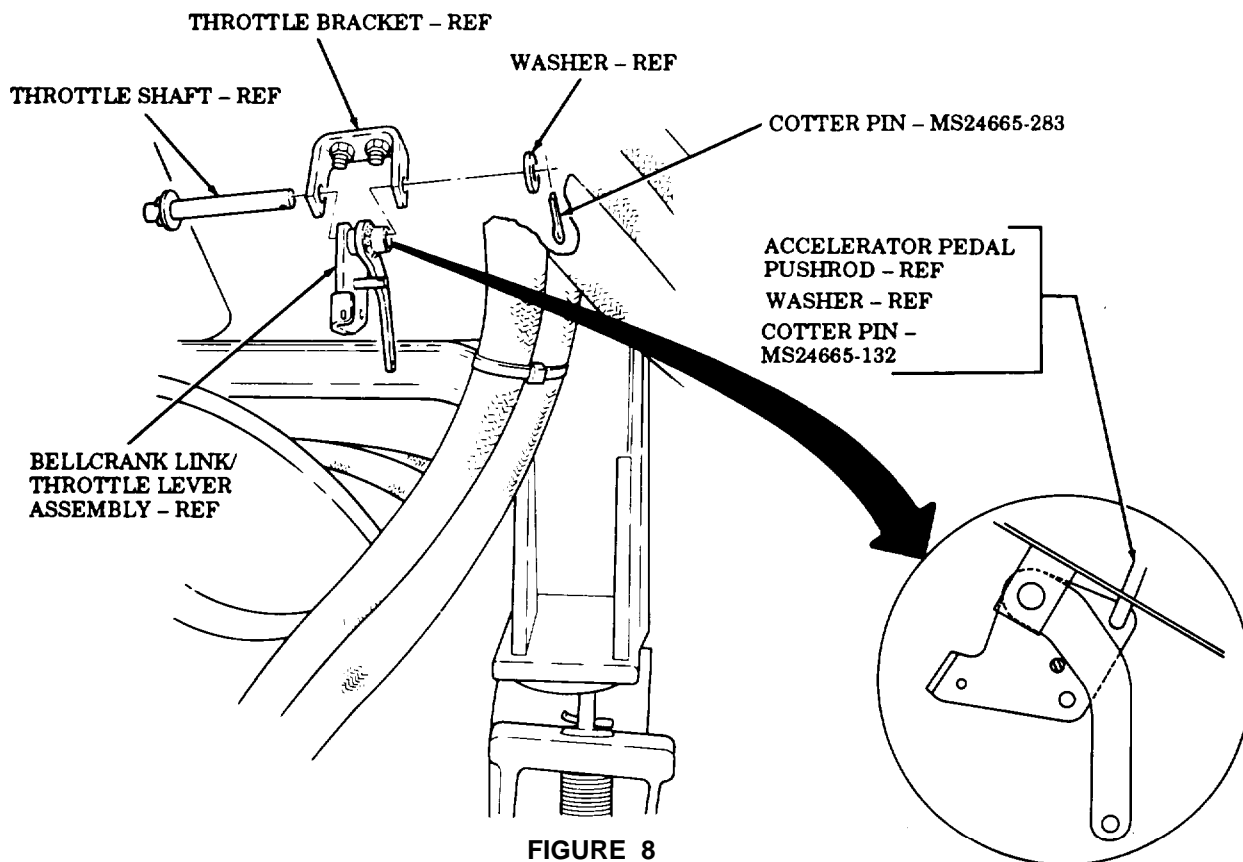
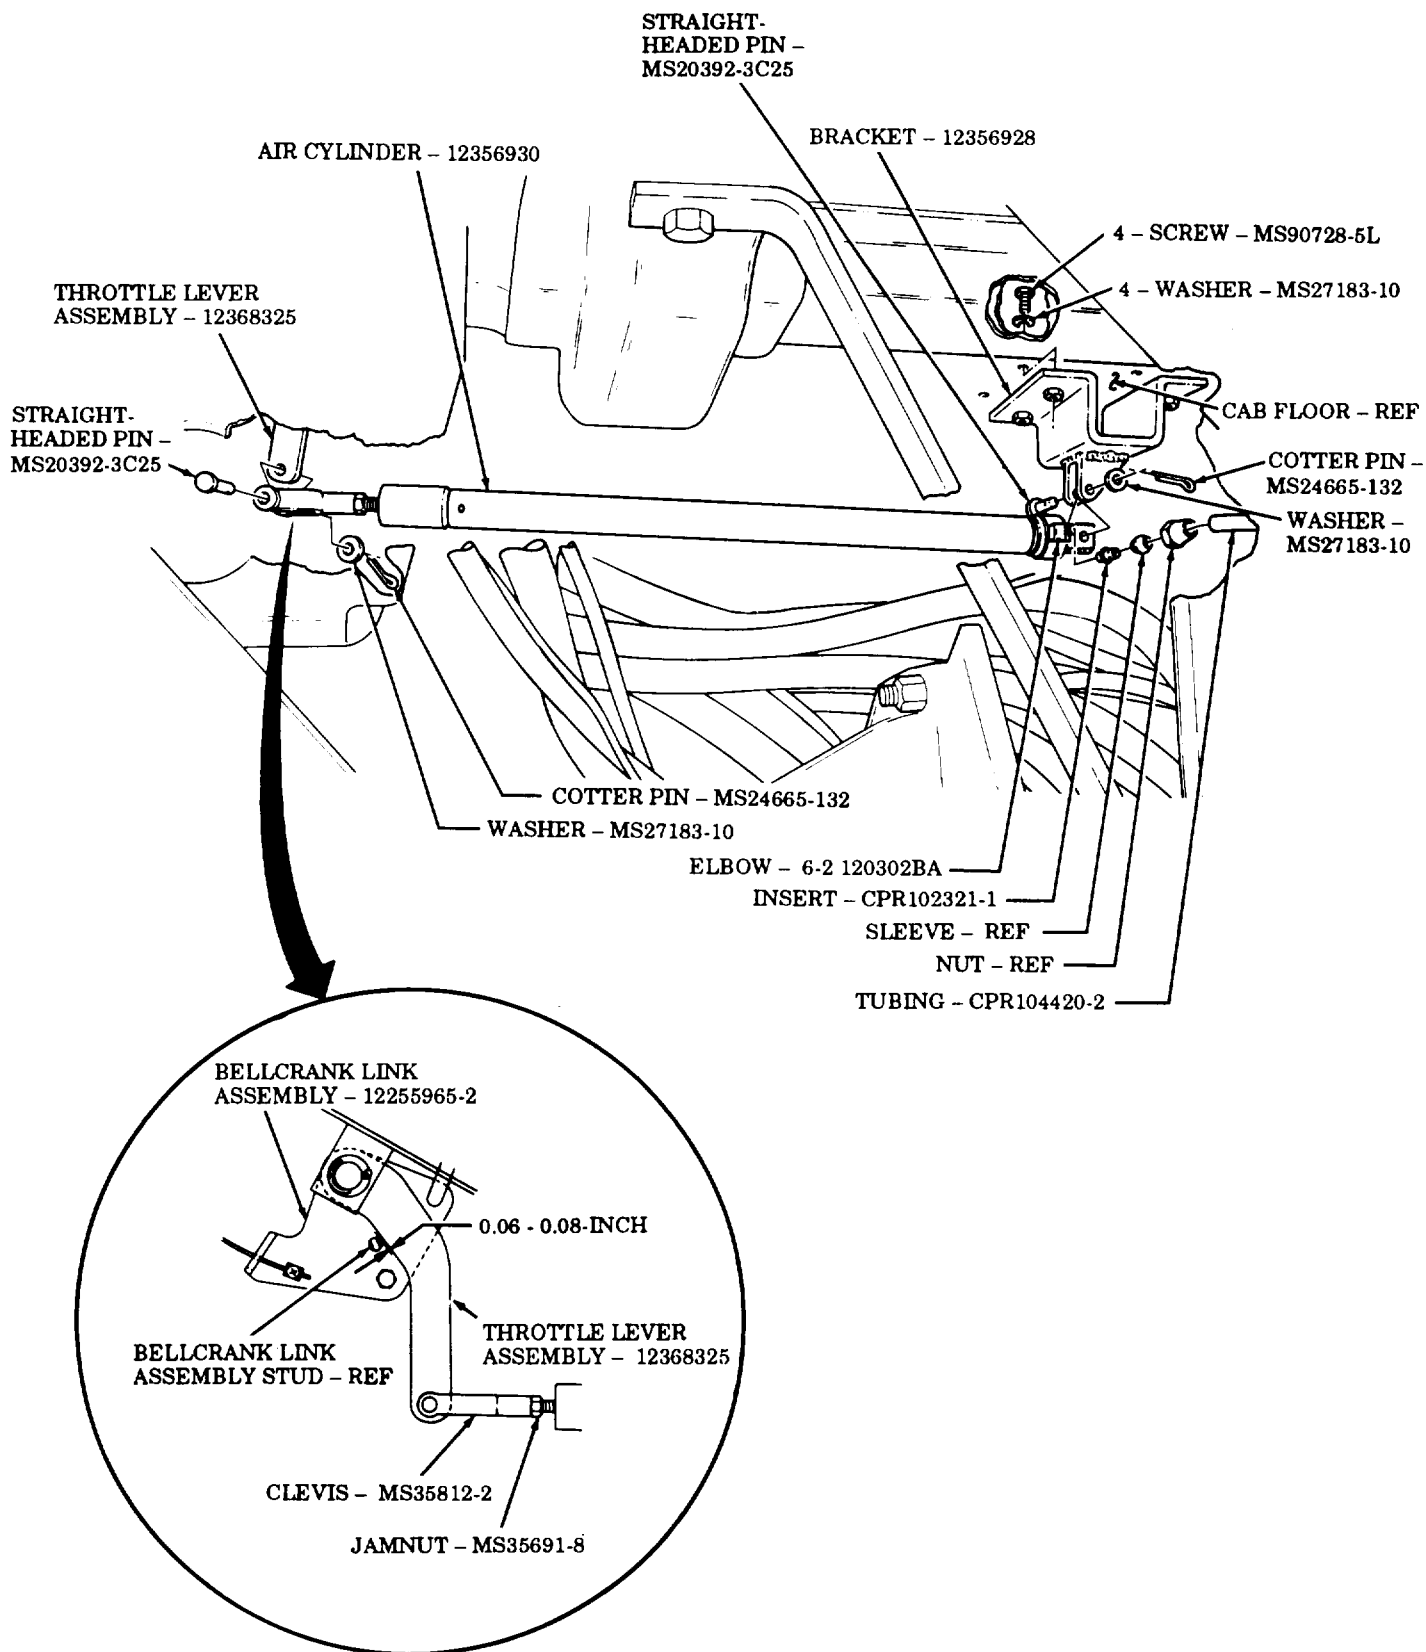

FIGURE 8
FIGURE 9
- (1) Position accelerator pedal pushrod on bellcrank link/throttle lever assembly and install bellcrank link/throttle lever assembly on throttle bracket with throttle shaft, washer, and MS24665-283 cotter pin as shown in figure 8.
- (2) Install accelerator pedal pushrod on bellcrank link/throttle lever assembly with washer and MS24665-132 cotter pin as shown in figure 8.
- (3) Install ball joint, return spring, and throttle cable on bellcrank link assembly (12255965-2) (TM 9-2320-272-20).
- (4) Install 12356928 bracket on cab floor with four MS27183-10 washers and MS90728-5L screws as shown in figure 9.
- (5) Install air cylinder (12356930) on bracket (12356928) with MS20392-3C25 straight-headed pin, MS27183-10 washer, and MS24665-132 cotter pin as shown in figure 9.
- (6) Install clevis (MS35812-2) on throttle lever assembly (12368325) with MS20392-3C25 straight-headed pin, MS27183-10 washer, and MS24665-132 cotter pin as shown in figure 9.
- (7) Measure clearance between stud of bellcrank link assembly (12255965-2) and throttle lever assembly (12368325). Clearance should be 0.06-0.08-inch as shown in figure 9.
- (8) Remove cotter pin (MS24665-132), washer (MS27183-10), straight-headed pin (MS20392-3C25), and clevis (MS35812-2) from throttle lever assembly (12368325) as shown in figure 9.
- (9) Loosen jamnut (MS35691-6) and turn clevis (MS35812-2) to obtain proper clearance as shown in figure 9.
- (10) Install clevis (MS35812-2) on throttle lever assembly (12368325) with straight-headed pin (MS20392-3C25), washer (MS27183-10), and cotter pin (MS24665-132). Check clearance as shown in figure 9.
- (11) Repeat steps 8 through 10 until proper clearance is obtained.
- (12) Install CPR102321-1 insert, sleeve, and CPR104420-2 tubing on elbow (6-2 120302BA) on air cylinder (12356930) with nut as shown in figure 9.
- a. When installed correctly, the Automatic Throttle Kit will appear as shown in figure 9.